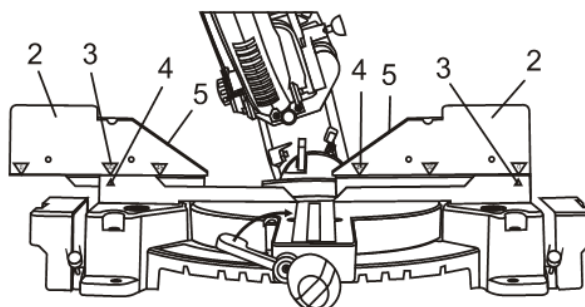

Fig. 19
2. Slide the fence extender (2) outward until the bevel appropriate angle (3) is aligned with the indexing mark (4) on the fence (Fig. 19).